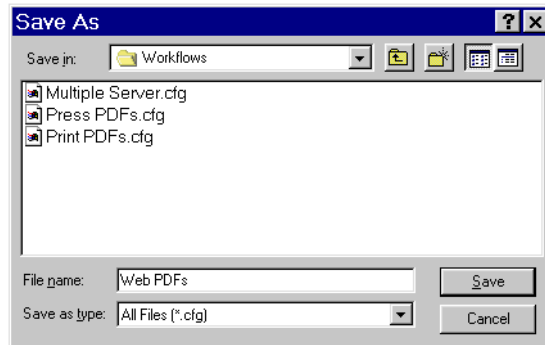

Figure 4.8 Save as dialog box
1. From the **Configuration** menu choose **Save**. The Save as dialog box opens, as shown in Figure 4.8.